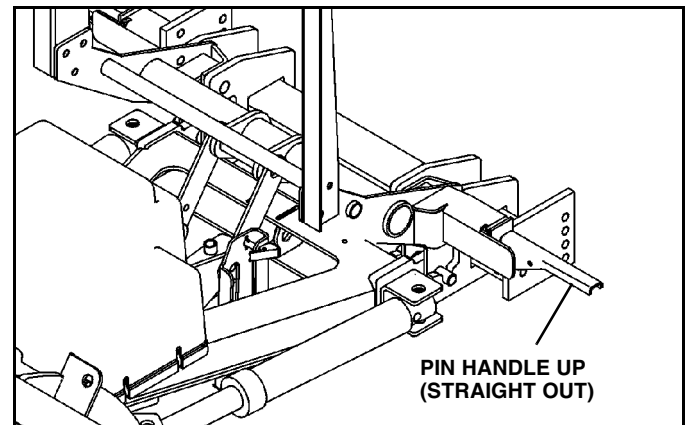

Figure 1-12
4. Rotate pin handles up (straight out) to unlock main pins. (See Figure 1-12)